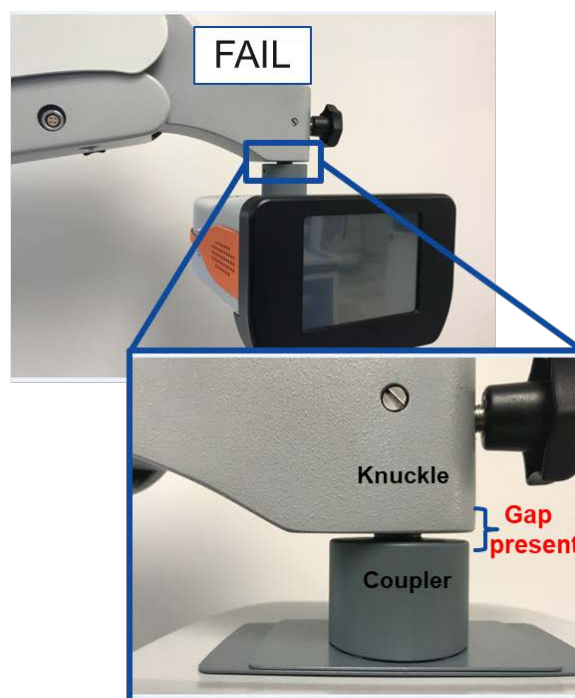

Figure 3: Fail Image
- FAIL: The gap observed between the coupler and knuckle is greater than or equal to the thickness of a credit card (approximately 1/32nd of an inch or 0.76mm) as shown in the "Fail" image in Figure 3. If your device fails this test, stop using the device immediately and notify Alcon.